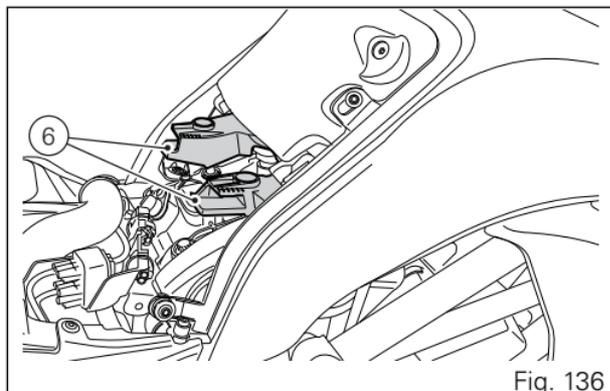

Fig. 136
Position the front side of the rider seat (5) with tabs (7) in guides (6, Fig. 136).